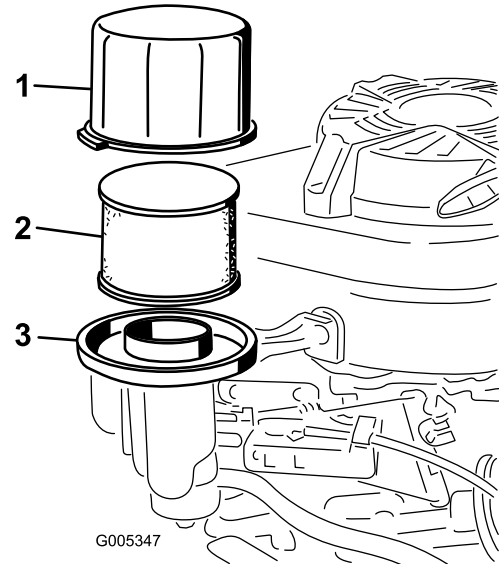

Figure 23
3. Remove the cover and clean it thoroughly (Figure 23).
4. Remove and inspect the paper air filter (Figure 23), and discard it if it is excessively dirty.
5. Remove the foam pre-cleaner and wash it with a mild detergent and water, then blot it dry (Figure 23).